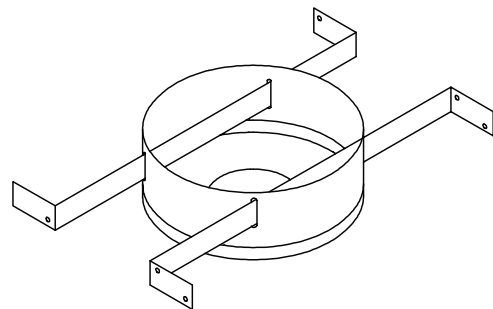

Figure 13
1. Description. The Bucket Support (**Figure 13**) is for properly supporting the B-vent between 16 or 24-inch O.C. joists or rafters, or for providing a transition fitting between DuraConnect or DuraConnect II and the B-vent Pipe Sections. A maximum of 20 feet of Type B Gas Vent may be supported. Note that the Bucket Support must be installed prior to the sheet rock.